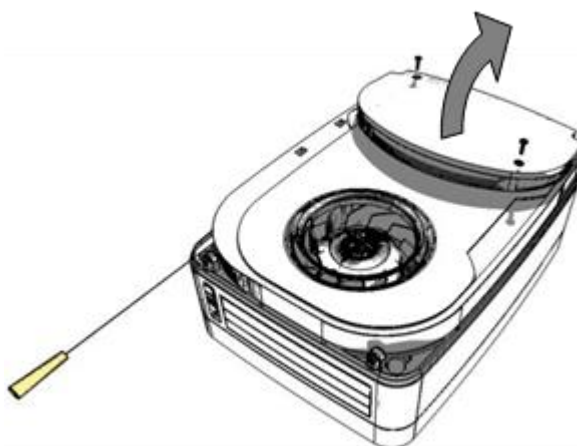

Figure 6
4. Unscrew the two screws and remove the electrical compartment cover (Figure 6).